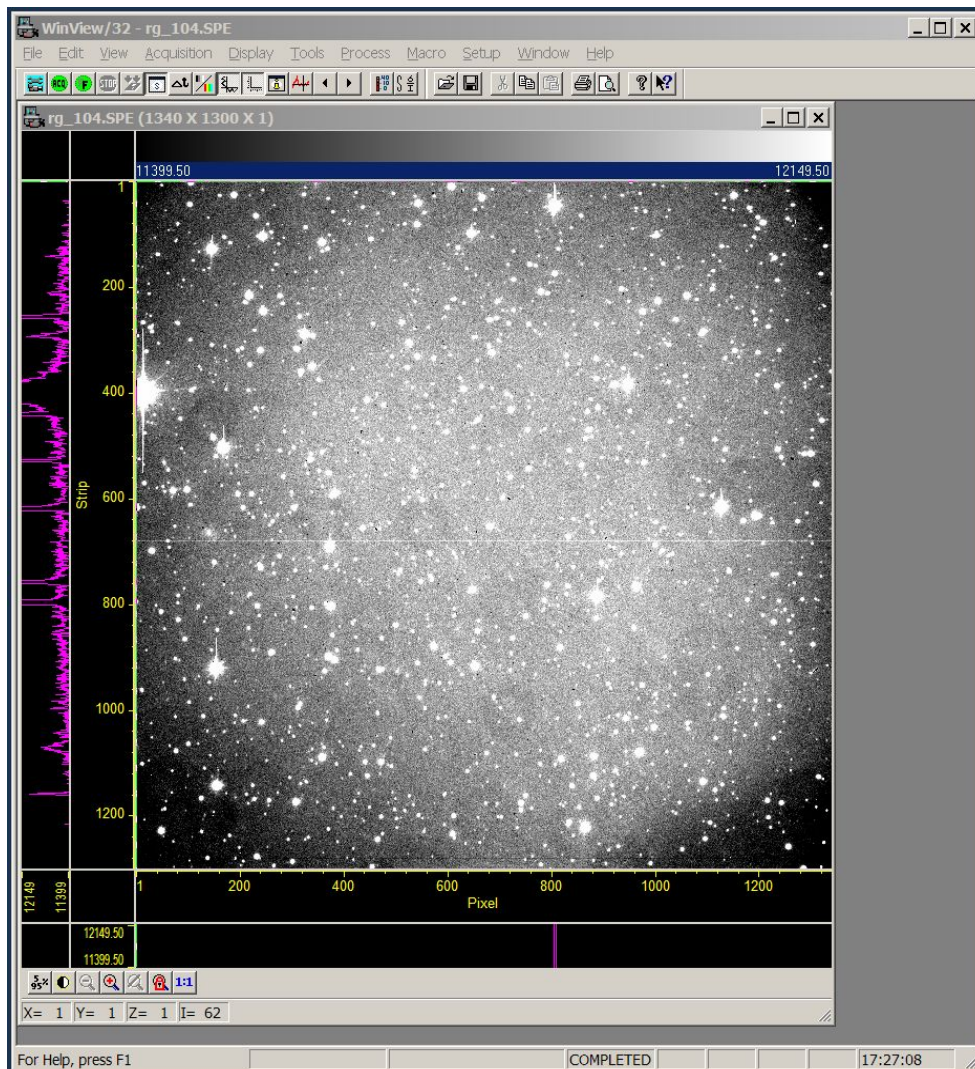

Figure 22
- **Button H** change the contrast with standard gray level values (see *Figure 22*)